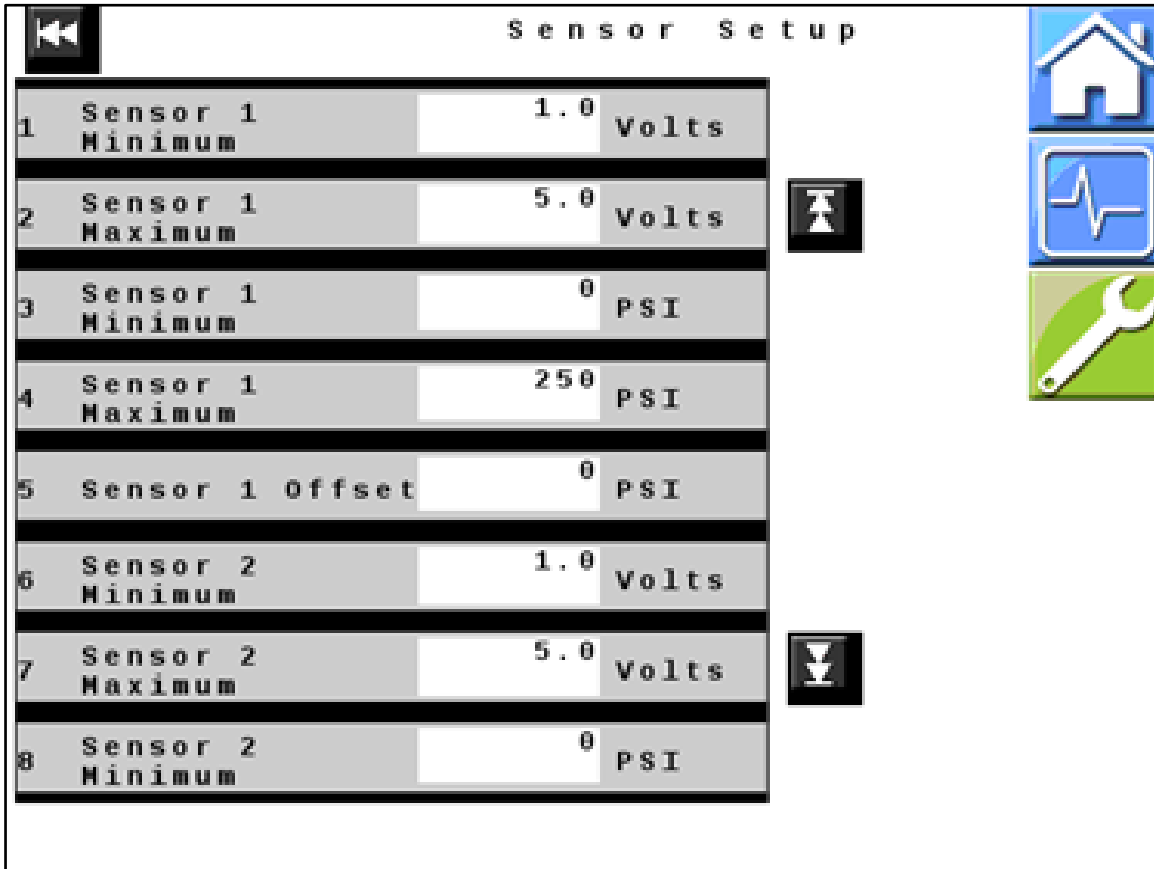

Figure 13 — Sensor Setup Page 1
21. *Figure 13:* Verify that all values displayed on your unit match those shown here. Change values if necessary.